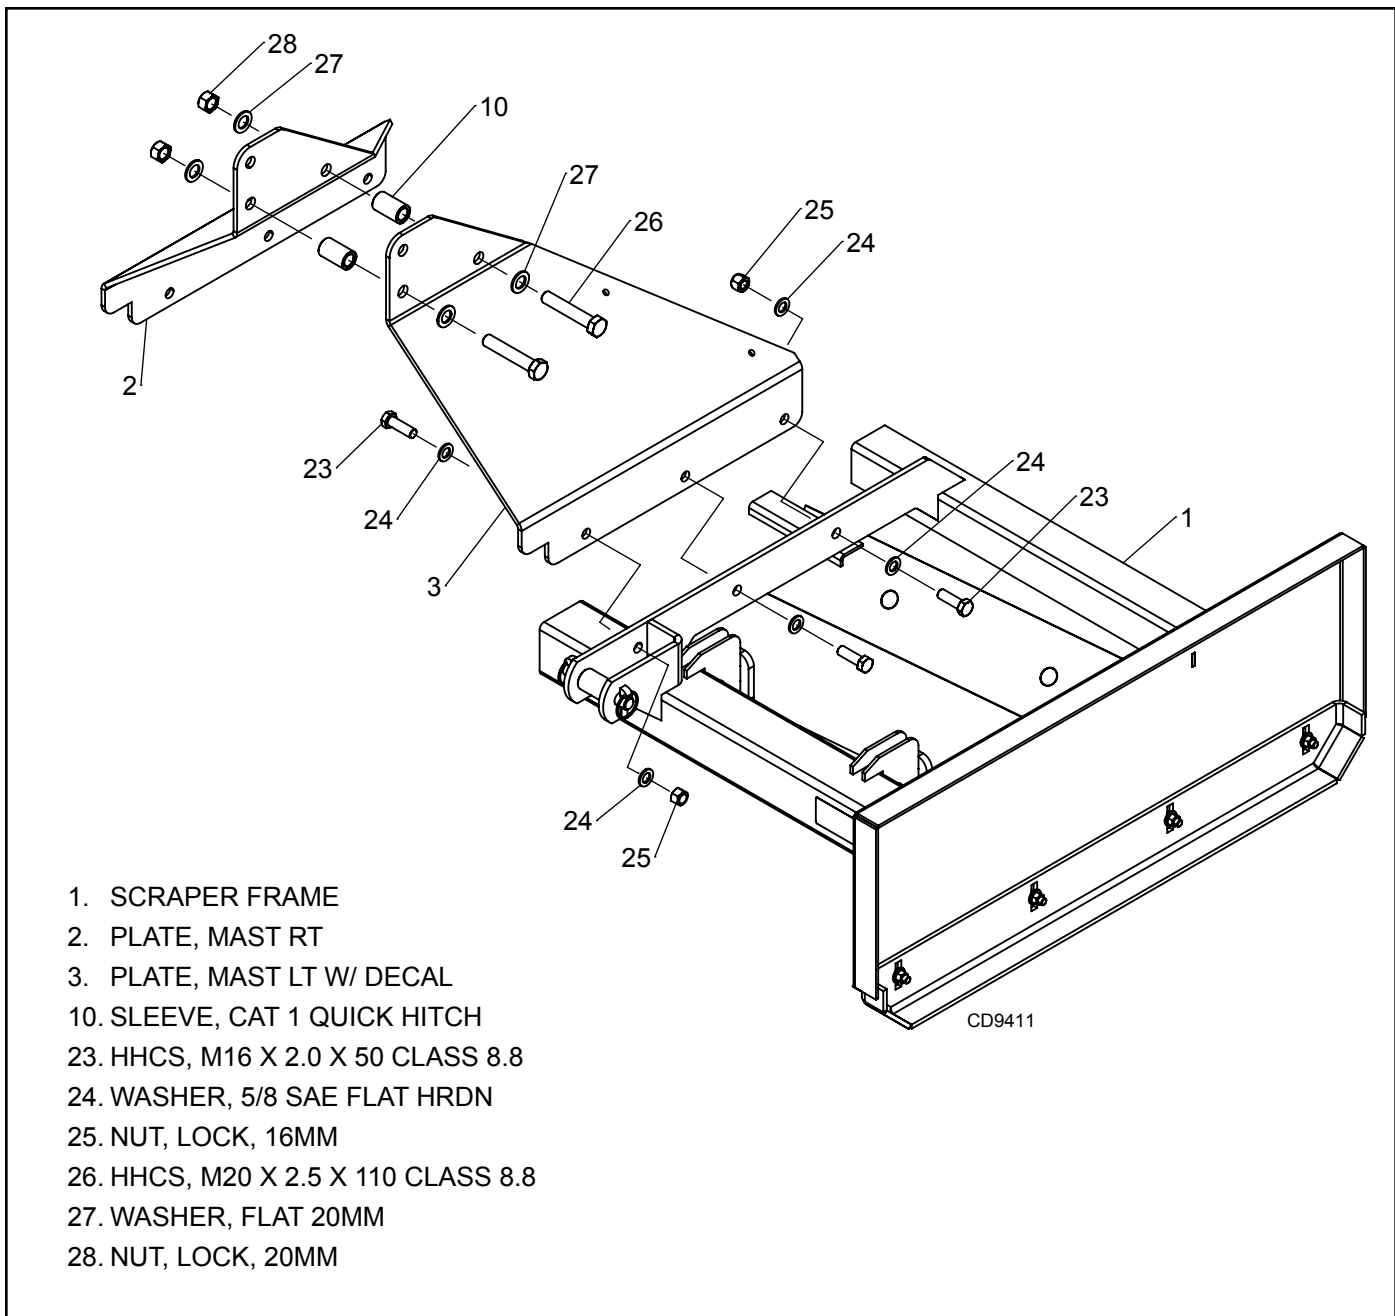

Figure 8. GSXX.30, GSXX.40 Models
2. Attach left mast plate (3) to scraper frame (1) using cap screws (23), washers (24) and nuts (25). See Figure 8.
3. Repeat step 2 for the right mast plate (2).
4. Locate sleeves (10) between mast plates lower holes. Secure with cap screws (26), washers (27) and nuts (28).